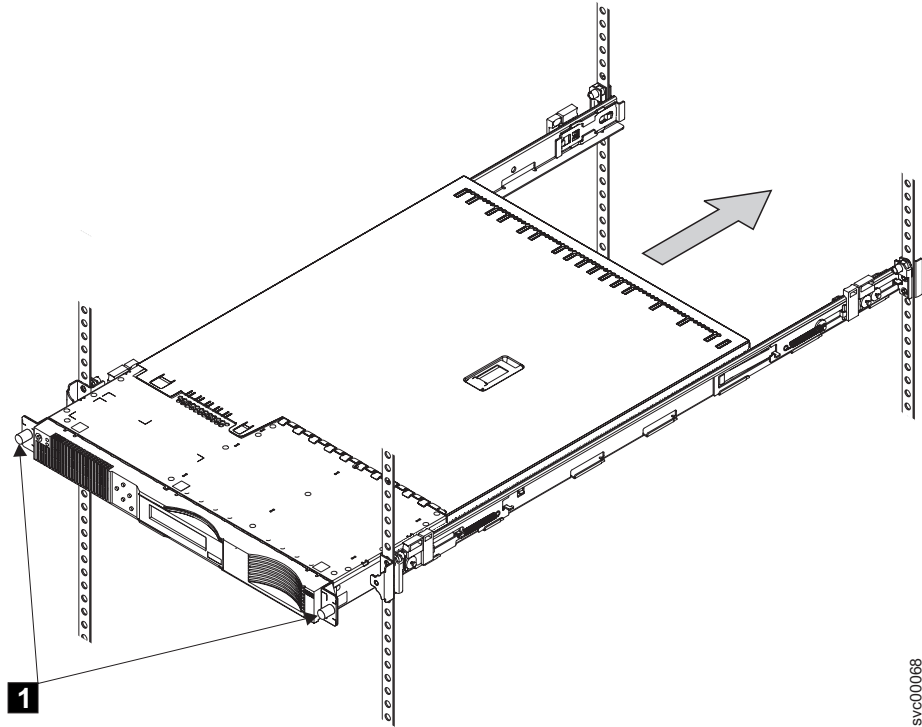

Figure 68. Attaching the SAN Volume Controller 2145-4F2 with the front screws
2. Latch the two latches on the front of the rack to attach the SAN Volume Controller to the rack. For the SAN Volume Controller 2145-4F2, screw in the two front screws **1**. See Figure 68 on page 327.
Note: The front of the rail assembly looks different from the front in Figure 68 on page 327.